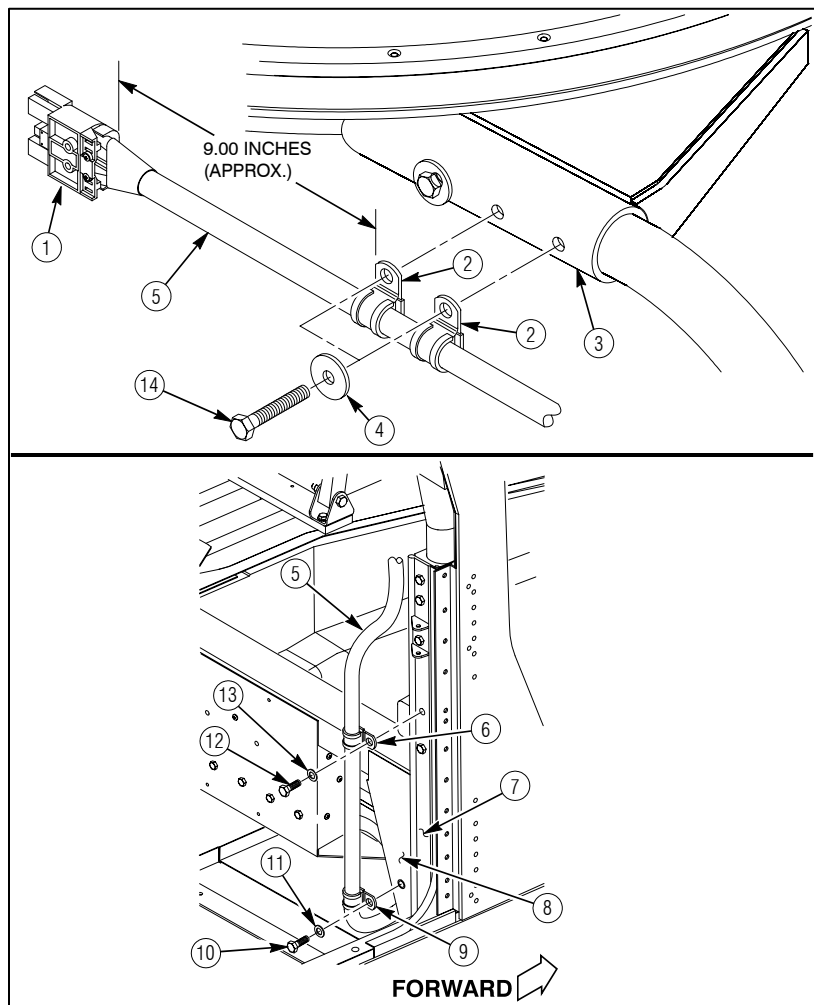

Figure 37
1. Remove two capscrews (14) and washers (4) from right side of turret support (3) as shown in figure 37.
2. Install two 6432788-01M1 loop clamps (2) on 6432538-01M1 wire harness (5) near the break-away connector (1) as shown in figure 37.
3. Apply sealing compound to threads of two existing capscrews (14). Refer to figure 37.
4. Secure two loop clamps (2) to right side of turret support (3) with existing capscrews (14) and washers (4) as shown in figure 37. Do not tighten capscrews (18) at this time.
5. Adjust end of wire harness (5) in loop clamps (2) to leave approximately 9.00 inches of wire harness (5) extending beyond loop clamp (2) as shown in figure 37 (pg.34). Tighten two capscrews (14) to 37 lb-ft. (50 N·m).
6. Install 6432788-01M1 loop clamp (6) on 6432538-01M1 wire harness (5) as shown in figure 37 (pg.34).
7. Remove capscrew (12) and washer (13) from back side of B-pillar (7) as shown in figure 37 (pg.34).
9. Secure loop clamp (6) to back side of B-pillar (7) with existing capscrew (12) and washer (13) as shown in figure 37 (pg.34). Tighten capscrew (12) to 21 lb-ft. (28 N·m).
10. Install 6432788-01M1 loop clamp (9) on 6432538-01M1 wire harness (5) as shown in figure 37 (pg.34).
11. Apply sealing compound to threads of 4397000-006 capscrew (10). Refer to figure 37.
12. Secure loop clamp (9) to B-beam gusset (8) with 4397000-006 capscrew (10) and 4397005-010 washer (11) as shown in figure 37 (pg.34). Tighten capscrew (10) to 6 lb-ft. (8 N·m).
13. Secure 6432538-01M1 wire harness (5) along B-pillar (7) with three 6432885-01M1 cable ties as required. Refer to figure 37 (pg.34).